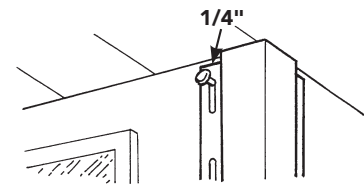
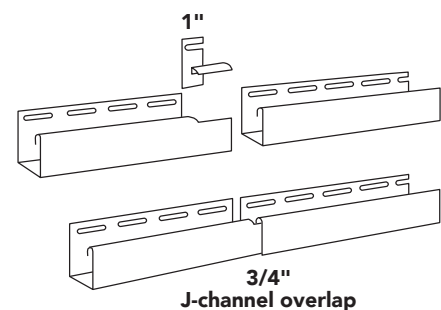
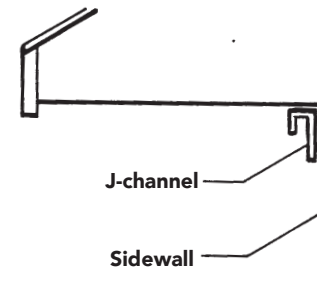

Figure 51
Figure 53
Figure 54
- Place the first nails in the uppermost end of the top nail slots to hold them in position (Figure 51). Place all other nails in the center of the slots. Nails should be 8" to 12" (203mm to 305mm) apart.
- Fasten every 8" to 12" (203mm to 305mm). Use the center of the nail slots. All vinyl should be fastened securely but not tightly. Sideways movement should not be restricted. Leave 1/4" (6.4mm) gaps at the corner posts (Figure 51). Where lengths adjoin, trim the nailing flange 1" (25.4mm) and overlap 3/4" (19mm) to produce a neat joint (Figure 53).
Install J-channel at the tops of the sidewalls (Figure 54). At the gable ends, snap a level chalkline along the base of the gable and install J-channel. Overlap where necessary and allow for expansion (Figure 53).